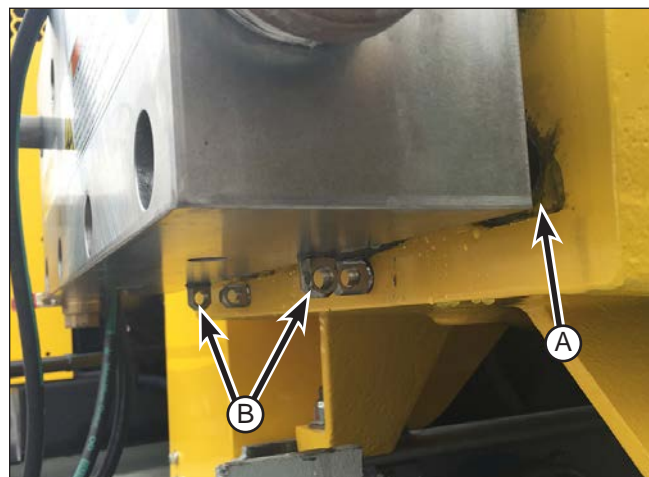

Figure 34: Manifold in Adjustment Position.
- b. Slide the manifold away from the powerframe (or adapter plate) a few inches (Figure 34, A). This will allow room to adjust the threaded trunnions in the bottom of the manifold.
- c. Screw both manifold trunnions (Figure 34, B) in completely and then back them out approximately 2-1/2 turns. Slide the manifold back against the powerframe (or adapter plate).